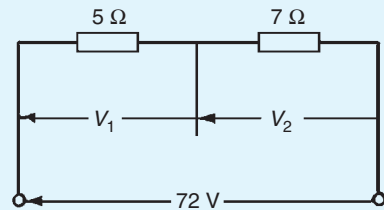

Figure 5.32
8. For the circuit shown in Fig. 5.32, find (a)  $V_1$ , (b)  $V_2$ , without calculating the current flowing. [(a) 30 V (b) 42 V]